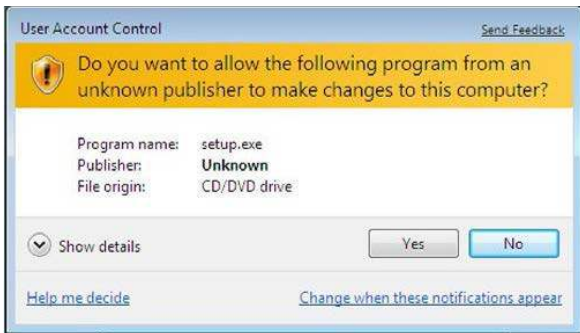
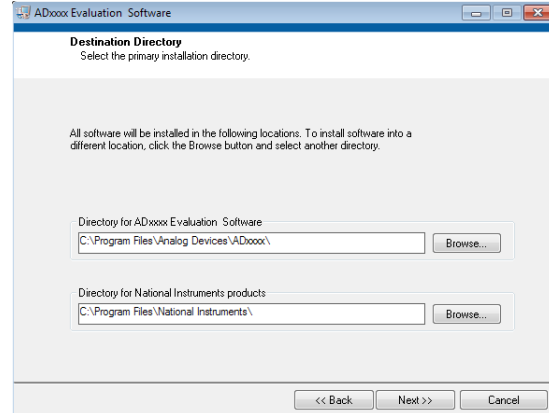
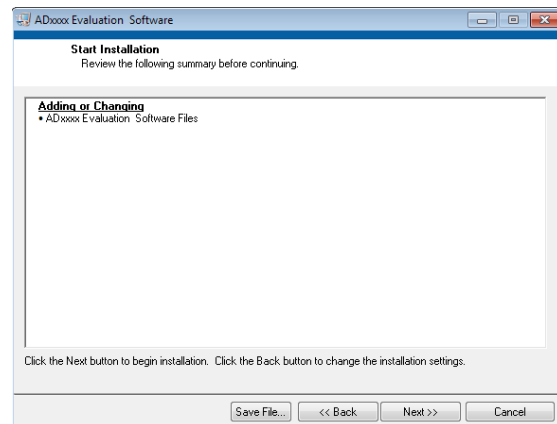

Figure 2. User Account Control Dialog Box
Figure 3. Destination Directory Window
Figure 4. Start Installation Window
| Changes to Installing the Evaluation Software Section,Figure 2 Caption, Figure 3 Caption, Figure 4 Caption, andFigure 5 Caption .....   | 6          |
3. A dialog box appears asking for permission to allow the program to make changes to the PC. Click **Yes** to begin the installation process (see Figure 2).
4. Select a location to install the software, and then click **Next** (see Figure 3).
6. A summary of the installation appears. Click **Next** to continue (see Figure 4).